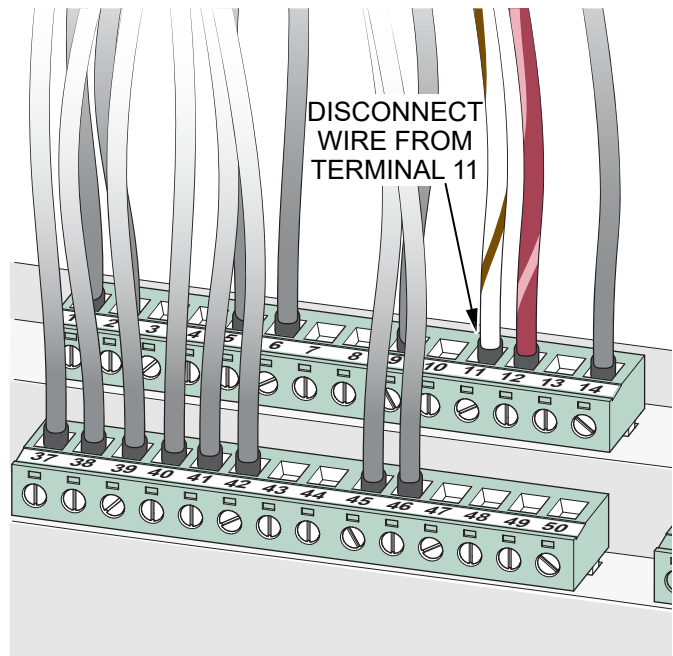

Figure 4. Disconnect Wire From Terminal 11
4. Disconnect the **WHITE/BROWN** wire from **terminal 11** on the DEIF controller (Figure 4).